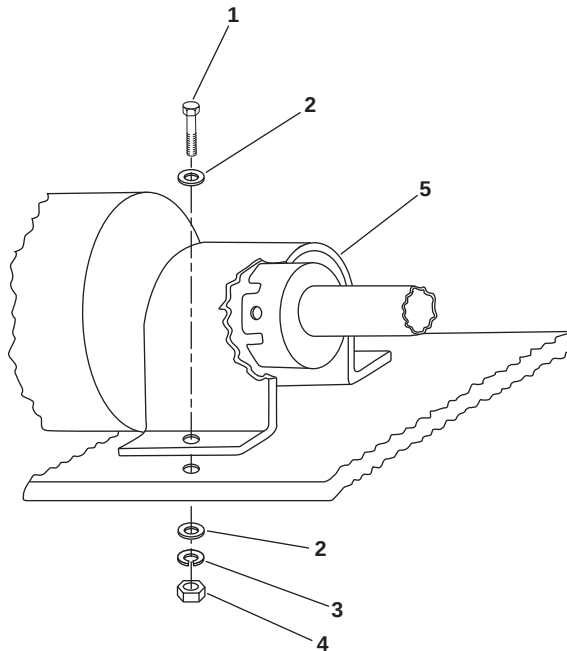

Figure 2. Coupling Guard
4. Remove the two bolts (figure 2, item 1) four flat washers (figure 2, item 2), two lockwashers (figure 2, item 3), and two nuts (figure 2, item 4) from the coupling guard (figure 2, item 5). Discard the lockwashers.
5. Remove the coupling guard (figure 2, item 5).
5. Install the coupling guard (figure 2, item 5) and secure it with two bolts (figure 2, item 1), four flat washers (figure 2, item 2), two new lockwashers (figure 2, item 3) and two nuts (figure 2, item 4).